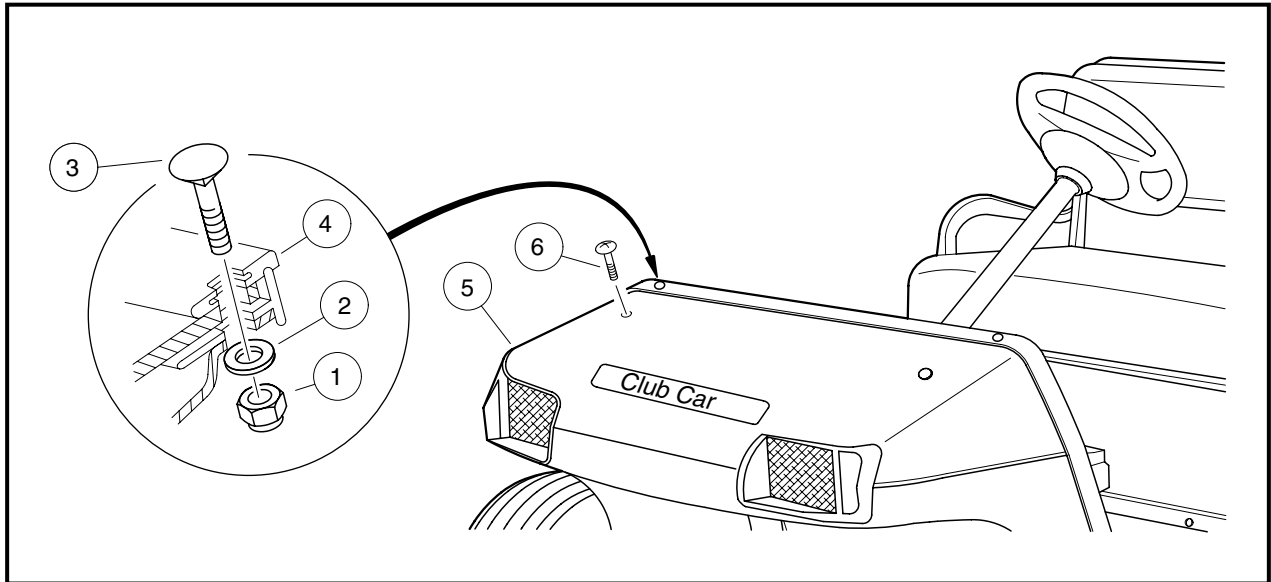

Figure 3 Remove Hardware from Front Body
1. Remove nuts (1), washers (2), and bolts (3) holding the trim (4) to the front body (5) (**Figure 3**). Retain nuts and washers for later use. Discard bolts.
2. Remove the phillips-head screw (6) from each side of the front body (5).